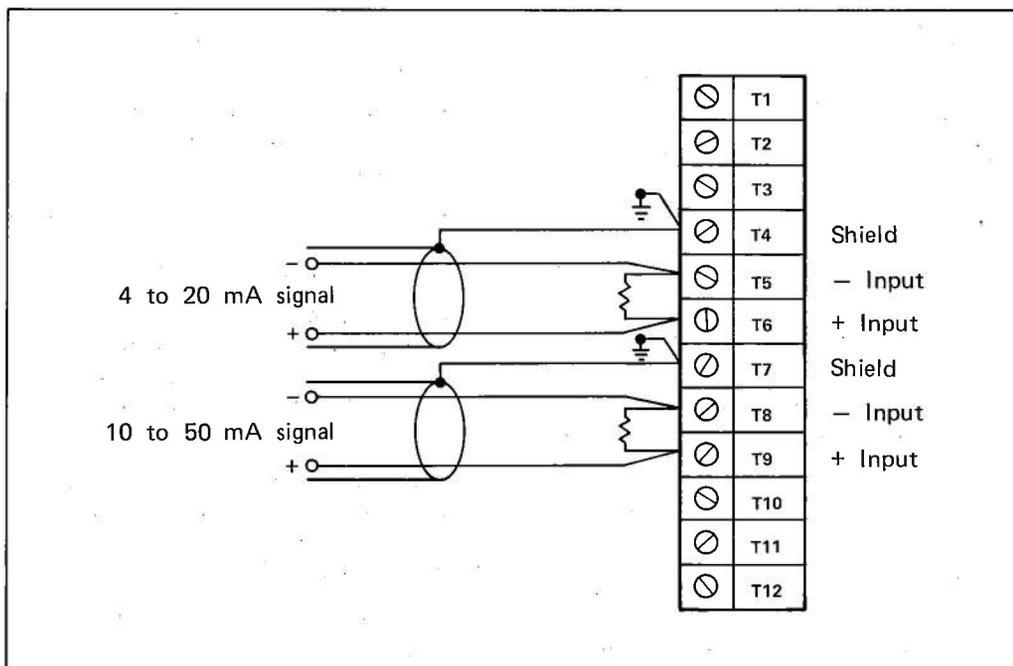

Figure 8 – Current Input Connections
4. It is possible to use an A/D channel as an analog current, but an external resistor must be added. Select the correct resistance value from Table C. Install it across T5 and T6 or T8 and T9 as shown in Figure 8. All resistors should be 0.1%, 1/2 watt precision types with a low-temperature coefficient (less than ± 20 ppm).